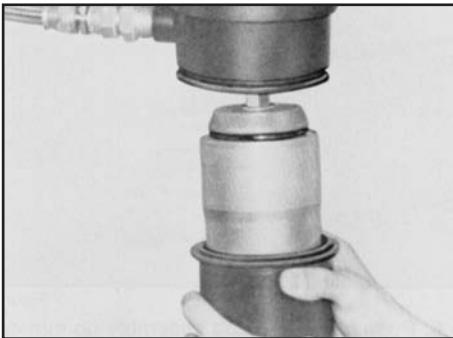

FIGURE 3
Step 3: Twist and pull down on housing and remove assembly (see FIGURE 3).